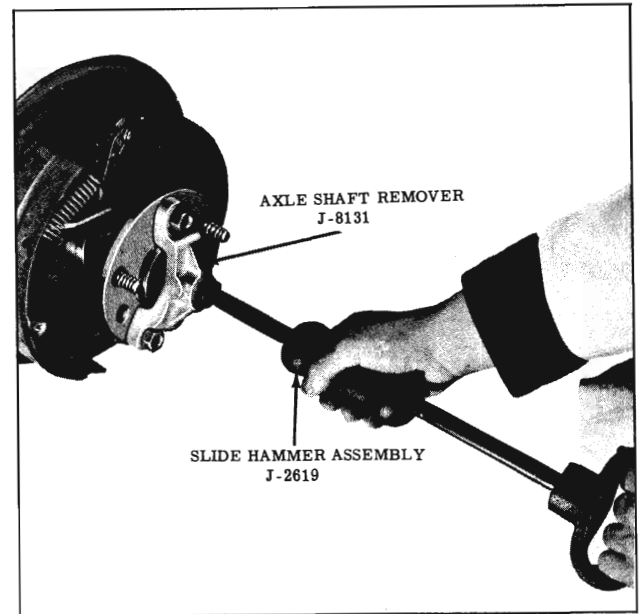

Fig. 5-36 Removing Axle Shaft
5. Pull axle shaft and bearing assembly from housing. Use Tool J-942-1 and Slide Hammer J-2619 if bearing is a tight press fit in the axle housing. (Fig. 5-36)